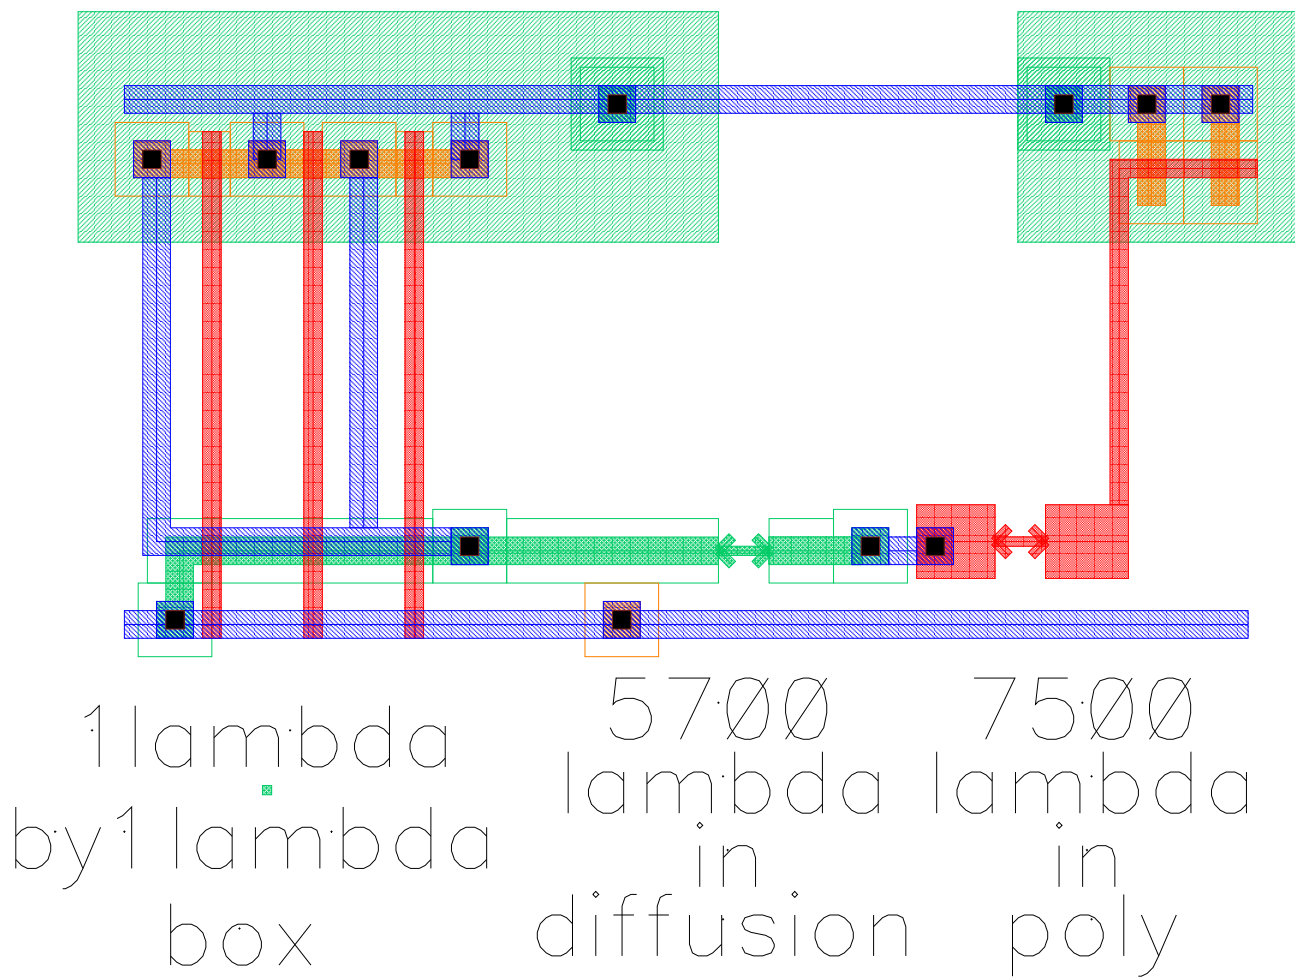

Figure 1: Layout for Circuit Extraction
1. **(Circuit Extraction of Equivalent Resistances and Capacitances.)** Consider the following layout for a bus driver, the long interconnect, and the two p-channel transistors that represent the load on the bus in Figure 1. Use Table 4.7 in the text to calculate these values. You need $t_{ox} = 40 \text{ Angstroms}$ for the TSMC $0.18 \mu m$ process in order to use these tables. Assume that each contact resistance is 20.0Ω for metal1-poly, 20.0Ω for metal1- p-diffusion, and 20.0Ω for metal1- n-diffusion and use Table 1 and Table 4.9 in Weste and Harris to calculate your wire resistances and drain capacitances. Approximate fringing capacitance by simply doubling the wiring capacitance (however, note that this approximation is increasingly incorrect as we scale down). Based on the formulae given in lecture and in Weste and